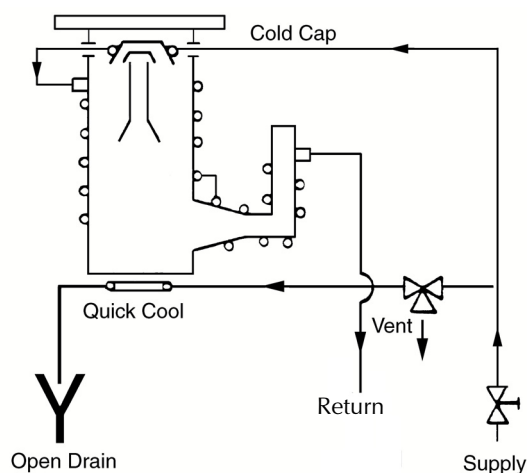

Figure 10 HS-16/20 Cooling Water Connections
1. Connect the cold cap cooling coil and all body and foreline cooling in series *except the Quick Cool coil (see the following paragraph)* as shown in Figure 10. Refer to Table 4 on page 12 for the cooling water flowrate for your pump type. Higher flows will not harm the pump.